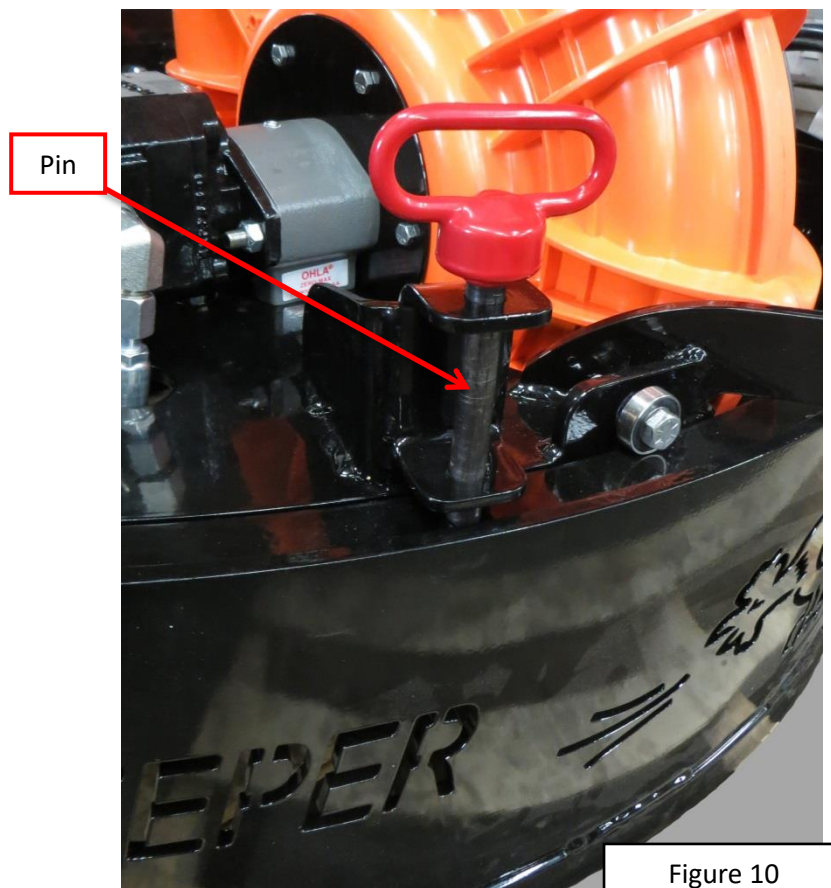

Figure 10
If your machine is equipped with hydraulic swing adjustment, perform the following check before operating the blower. Figure 10 shows a pin through the holes in the bracket provided for manual swing adjustment units. If your machine is equipped with hydraulic swing adjustment, make sure there is no pin or bolt in these holes blocking free movement of the blower swing adjustment toward the left or toward the right! **Damage to the machine will result.**
9. If your unit is equipped with hydraulic swing adjustment, before restarting unit, make sure there is no pin or bolt in the manual latch holes to restrict the blower from freely swinging toward the right or toward the left. See Figure 10 with the Pre-Operation Check.